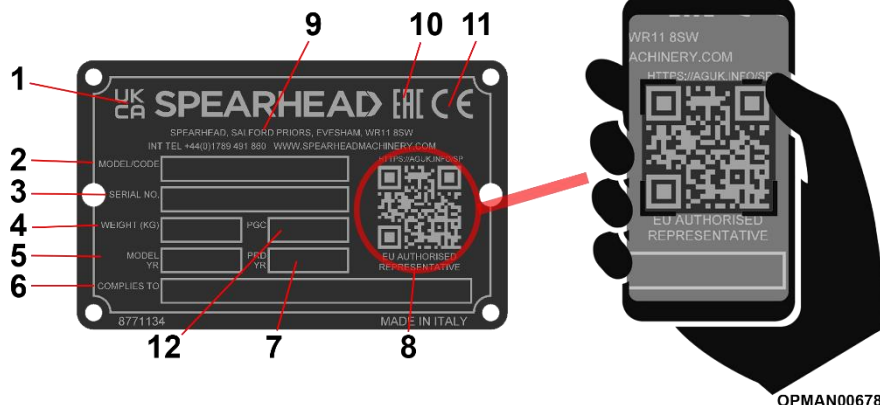

Figure 2 – Serial Plate
Each machine is equipped with a serial plate; see Figure 2 that includes the following data in this order:
By utilising a smart phone and scanning the Authorised Representative QR scan code found on the right-hand side of the serial plate (ref 8, Figure 2) using a suitable QR scanning App, you can find details for Spearhead Machinery authorised representatives for its various territories.